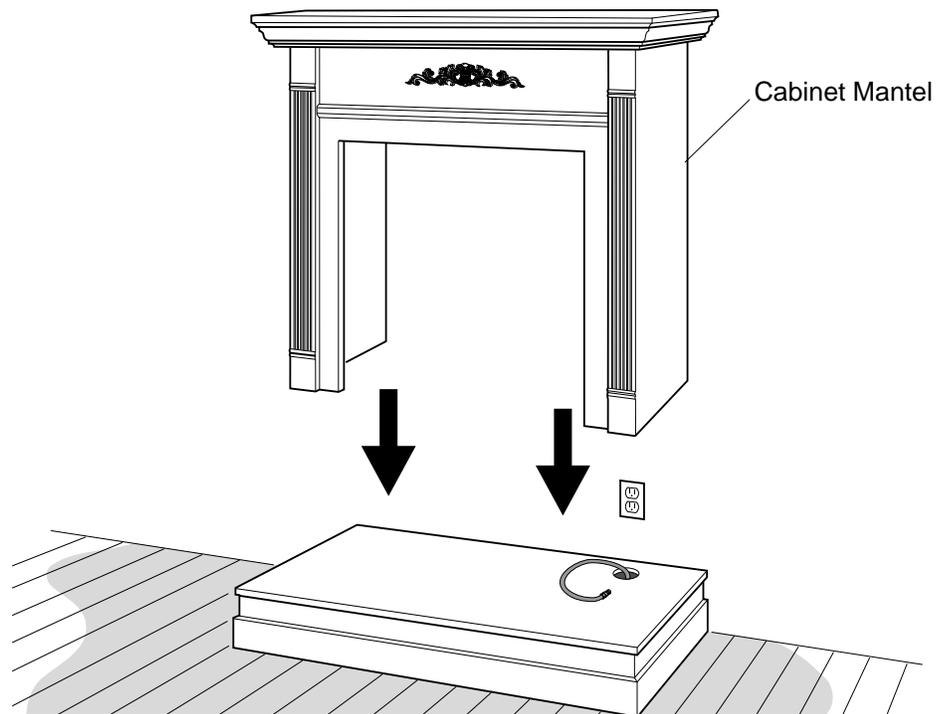

Figure 11 - Installing Cabinet Mantel
10. After heater is secured, replace mantel on hearth base (see Figure 11). Make sure mantel is flush against wall. Install brass trim (see page 11).